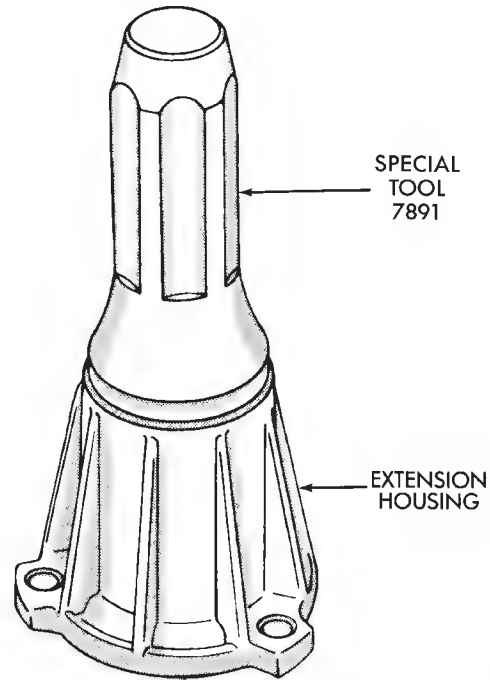

Fig. 78 Seating Extension Housing Seal
(70) Install new extension housing oil seal with Special Tool 7891 (Fig. 78).
(71) Apply 3 mm (1/8 in.) wide bead of Mopar gasket maker, silicone adhesive sealer, or Loctite 518 to seal surface of extension housing.
(72) Install extension housing on case. Tighten housing bolts to 41 N·m (30 ft. lbs.) torque.